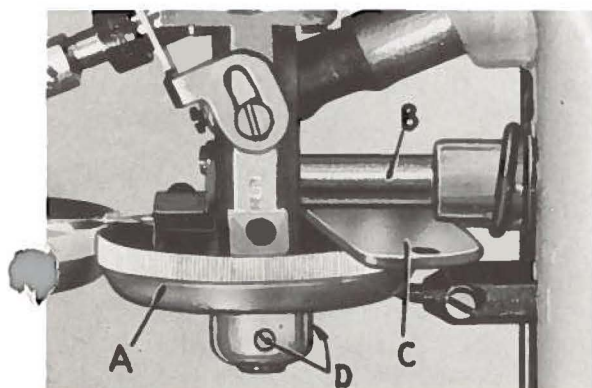

Fig. 2
Check the height of the rear feed cup (A, Fig. 2) in relation to the bottom of the needle bar (B). Using gauge No. 21227 CA